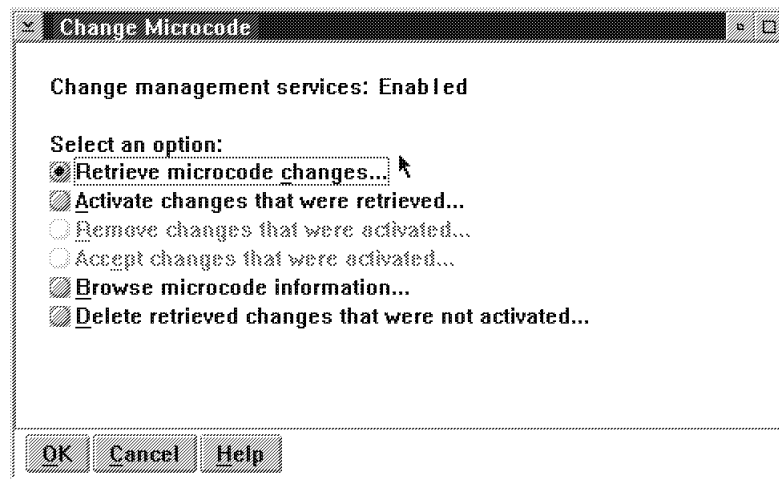

Figure 3-4. Change Microcode
- e. ____ From the change microcode window (see Figure 3-4), select the option **Retrieve microcode changes**, then click on "**OK**".
- a. ____ Select "**Display Cover Letter**" (see Figure 3-4 on page 3-13), then click on "**OK**".
- 1) ____ Click on the "**Browse Microcode Information**" (see Figure 3-4 on page 3-13).
From the "Change Microcode" window (see Figure 3-4 on page 3-13), select one of the options: